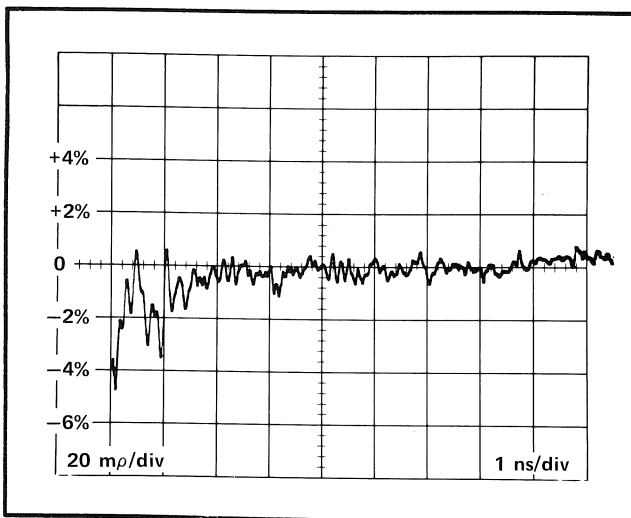

Fig. 5-6. System aberrations measurement (Step 14).
d. Set the Sampler UNITS/DIV control at 20 m ρ and adjust the DC OFFSET control to position the right end of the trace on the graticule center line (see Fig. 5-6).